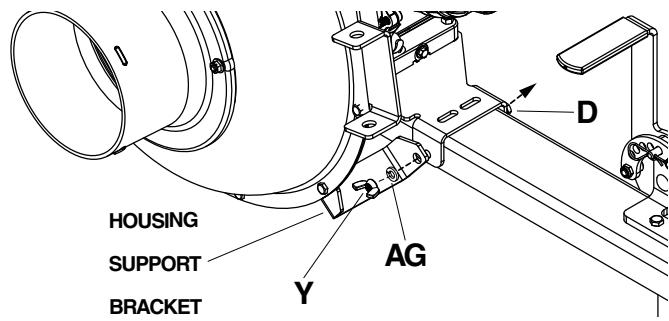

FIGURE 19A
- Push in the 3/8" x 5-1/4" bolt (D) that was partially installed through the other side of the engine assembly (5) and the housing support bracket.
- Secure with a 47/64" lock washer (AG) and 3/8" wing nut (Y). Tighten hardware. See figure 19A.